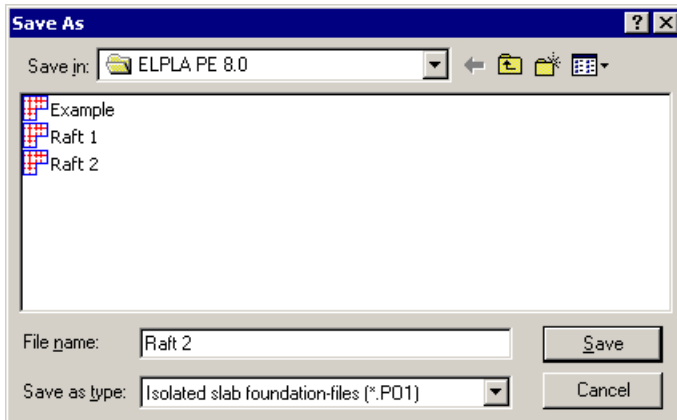

Figure 3-27 "Save as" dialog box
- Choose "Save project as" command from "File" menu of *ELPLA-Data* window. The following "Save as" dialog box appears, Figure 3-27